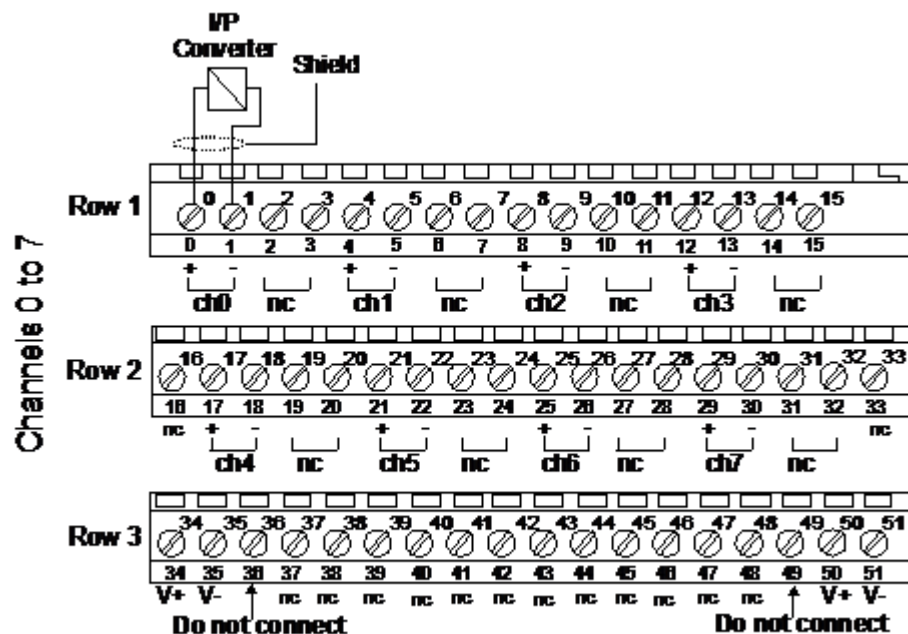

Figure 17: Typical Analog Output module connections.
- 1 Observing polarity, connect the output leads from the + and - terminals for channels 0 to 7 to analog devices in the current range of 0 to 22mA. Refer to Figure 17 for typical analog device connections.
Do not use the unused terminals (2, 3, 6, 7, 10, 11, 14, 15, 19, 20, 23, 24, 27, 28, 31, 32, 37, 38, 39, 46, 47, 48) on this Terminal Base unit with an Analog Output module. Using these terminals for any purpose can result in damage to the module and/or unintended operation of your system (Figure 17).